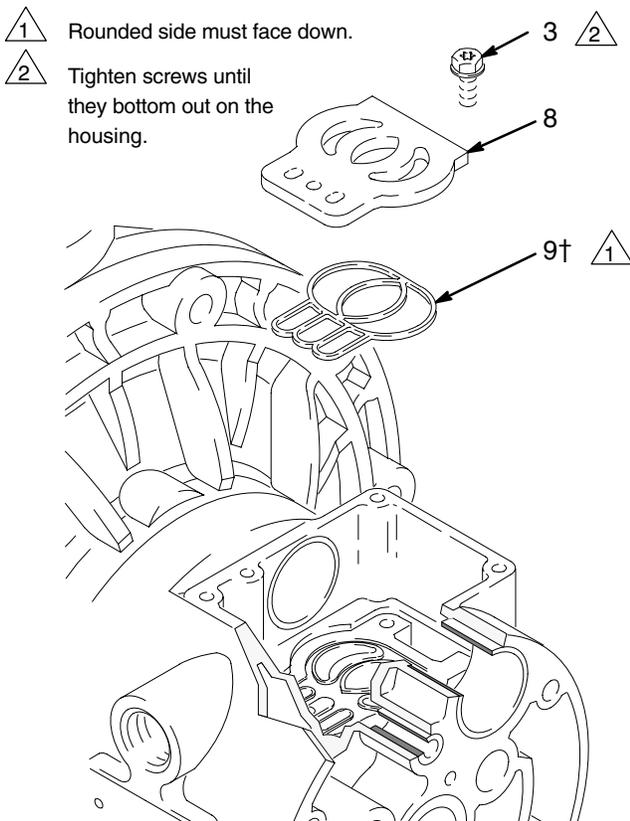

Fig. 9
5. Inspect the valve plate (8) in place. If damaged, use a Torx (T20) screwdriver or 7 mm (9/32") socket wrench to remove the three screws (3). Remove the valve plate (8) and seal (9). See Fig. 9.
2. Install the valve plate seal (9†) into the groove at the bottom of the valve cavity. The rounded side of the seal **must face down** into the groove. See Fig. 9.
3. Install the valve plate (8) in the cavity. The plate is reversible, so either side can face up. Install the three screws (3), using a Torx (T20) screwdriver or 7 mm (9/32") socket wrench. Tighten until the screws bottom out on the housing. See Fig. 9.